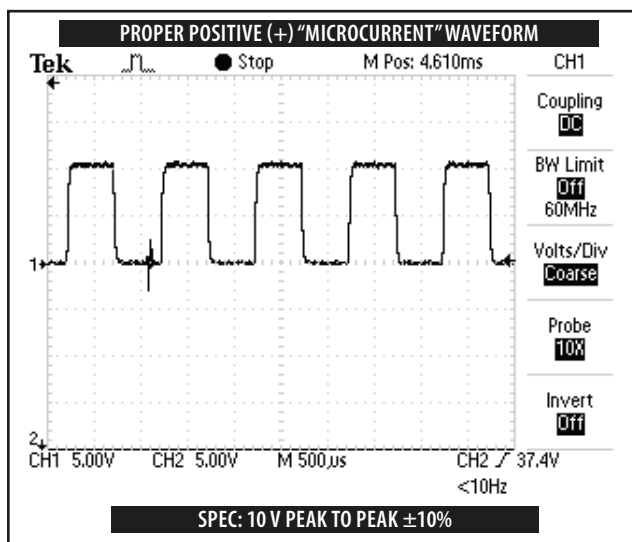
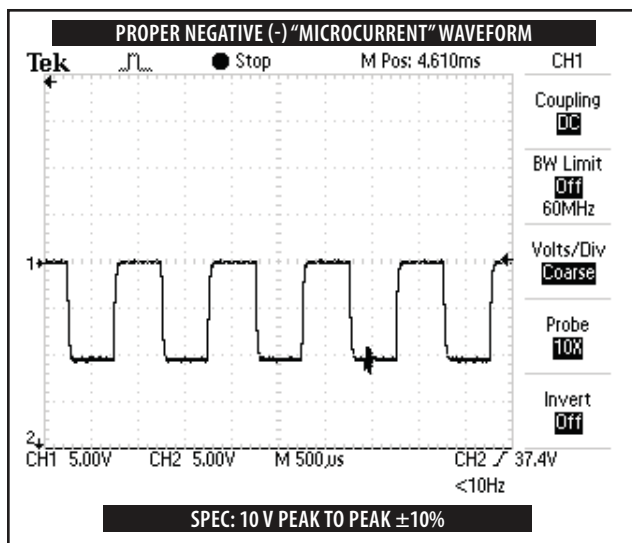

FIGURE 5.11
FIGURE 5.11A
10. Compare waveform on scope to **Figure 5.11** and **Figure 5.11A.**
1. Waveform is the same between scope and **Figure 5.11** and **Figure 5.11A.**